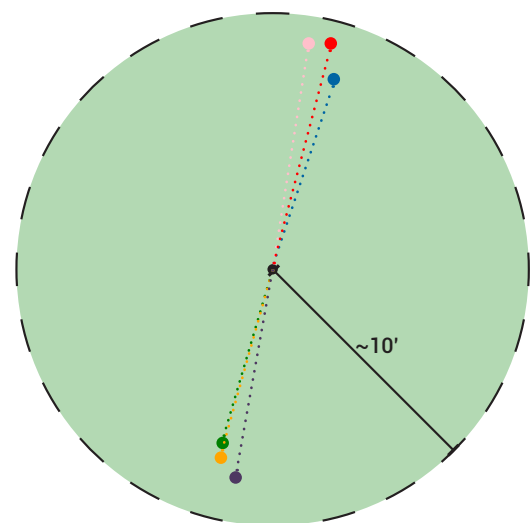

Fig. 2: Example of the 6 golf balls and measured distances from tee.
5. Record the distances of all balls to and from the coin or tee where the ball stops (Fig. 2)